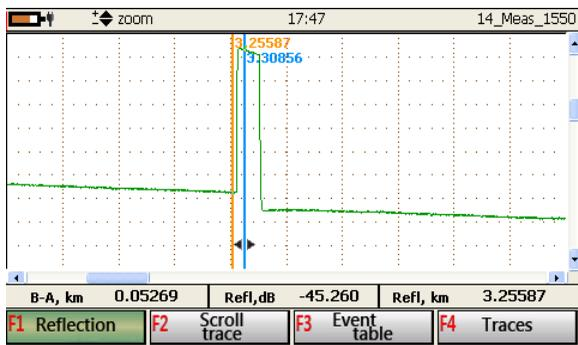

Figure 7.23
The left marker (A) is placed before the reflection at the beginning of trace's rise, its coordinates are shown in the data line as the distance to the reflection. The right marker (B) is placed on the peak point of the reflection. An example of markers' placing is shown in Figure 7.23.